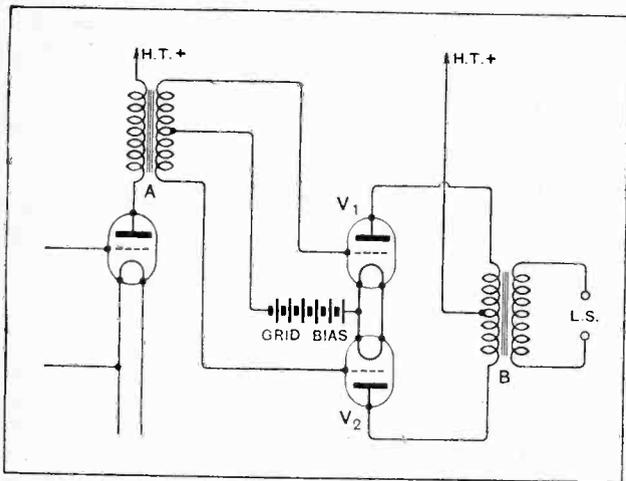

Fig. 1.—The conventional circuit for push-pull amplification.
**P**USH-PULL amplification is becoming more and more a popular method of obtaining a large undistorted output from the last stage of a wireless receiving set, since by its use two ordinary good power valves can be made to give results equivalent to one valve of the extra-super power type. The most general method of wiring such an output stage is shown in Fig. 1, where A is an intervalve transformer, the